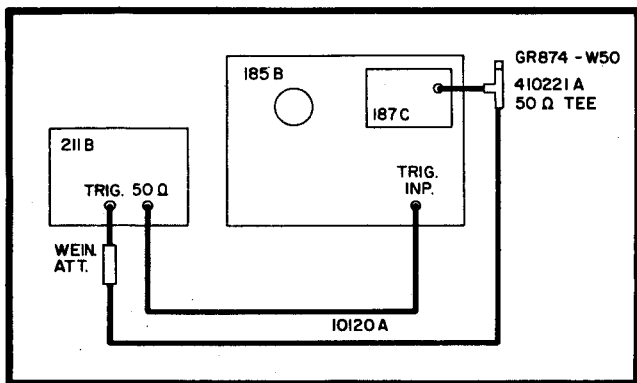

Figure 5-3. 50Ω Output Pulse Check
a. Refer to Figure 5-3 and connect required equipment.